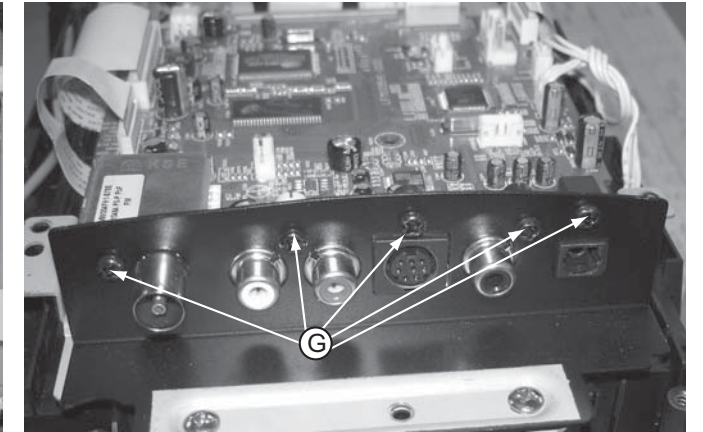

Figure 7
- 2) Loosen 5 screws "G" at the main board jack bracket to remove the main board as shown in figure 7.